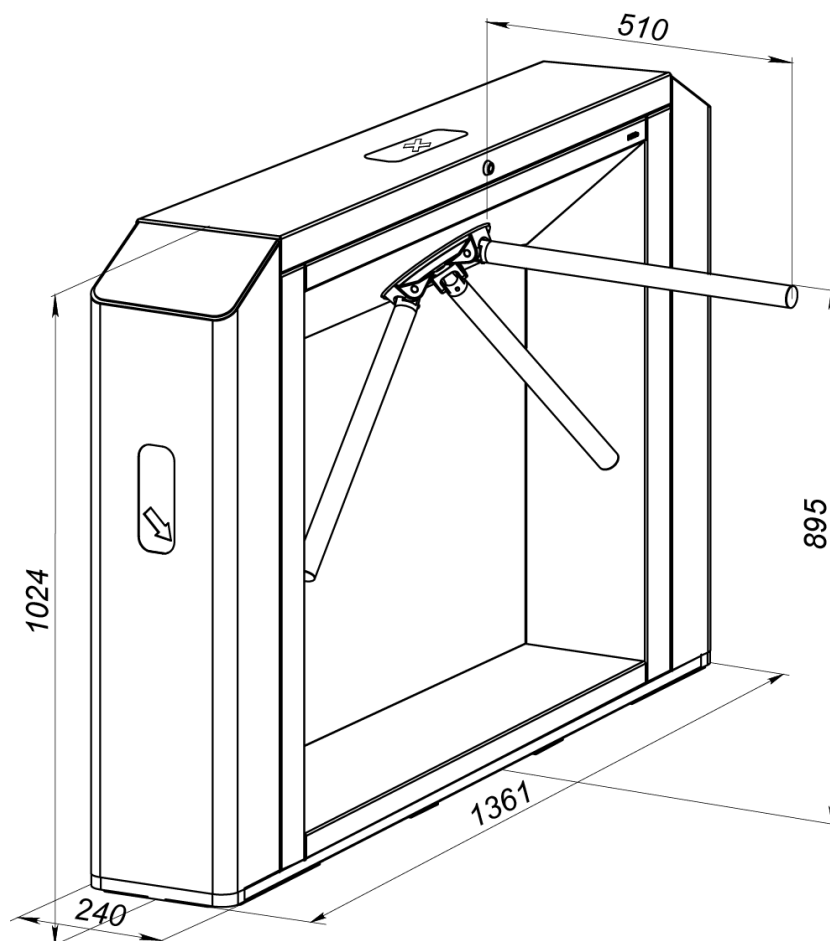
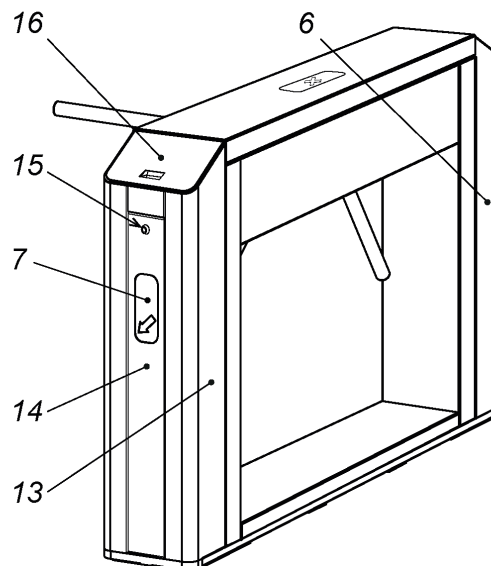

Figure 1. Overall dimensions of the TTD-10A turnstile
Figure 2. Design of the TTD-10A turnstile
The design of the turnstile is shown in Fig. 2. Numbers of the items hereinafter are given in accordance with Fig. 2. The overall dimensions of the turnstile housing are shown in Fig. 1.
The customer has an opportunity to choose one of the turnstile options. Various versions, differing in the design of their side modules (6, 13), i.e., presence / absence of a built-in card capture reader, are shown in Fig.2. The side modules are rigidly fixed to the main housing (1). On top of the side modules are installed side covers (8), which can differ in their functional application according to their type (see Table 1). Blocks of constant passage direction / denial indication are situated on the side modules of the turnstile (see Fig. 4). When the side modules are removed, access is provided to the four holes in the housing base for fixing the turnstile to the mounting surface.
To provide information about the current status and selected operation mode of the turnstile, a main cover indication block (3) is installed on the main top cover (see Fig. 2, 3). The indication block includes 3 mnemonic indicators:
¹ (6) – for the standard **TTD-10AB** version, (6) and (13) – for the **TTD-10AC** version with the built-in card capture reader (ref. Fig. 2).